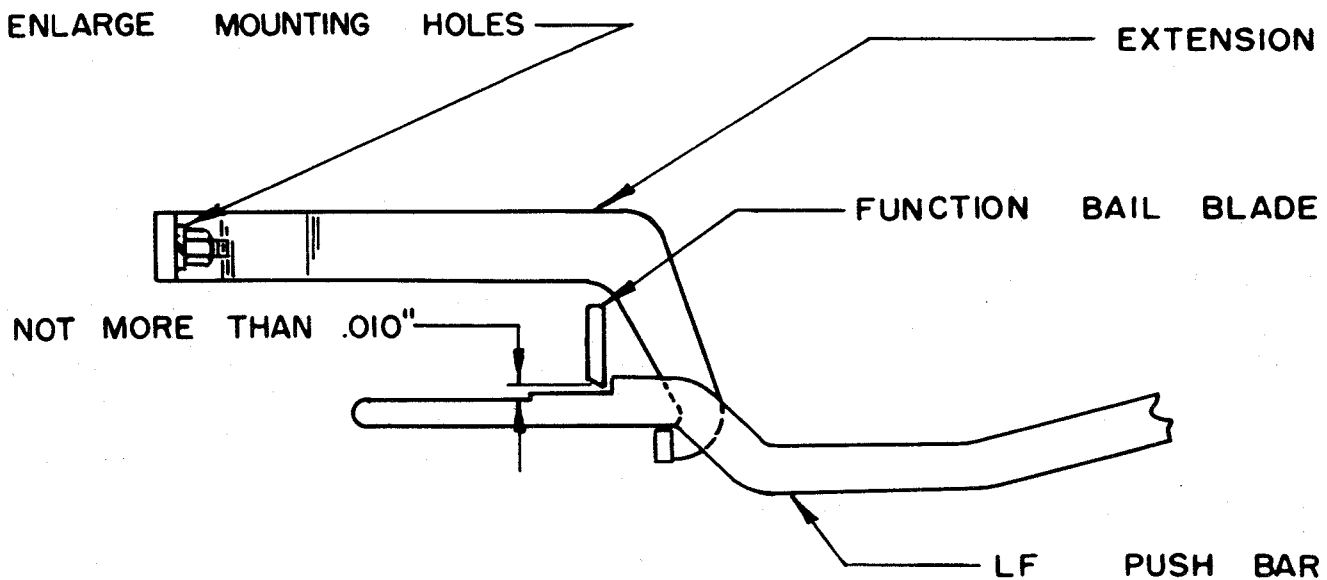

Figure 20
**14.03 Operating Bail Line-feed Extension:** With the printing bail in its extreme rear position and the automatic carriage-return trigger held in its operated position, rotate the main shaft until the automatic carriage-return and line-feed function lever just touches the number one vane. There should be some clearance, not more than 0.010 inch between the line feed push bar and the bottom of the function bail blade. See Figure 20.